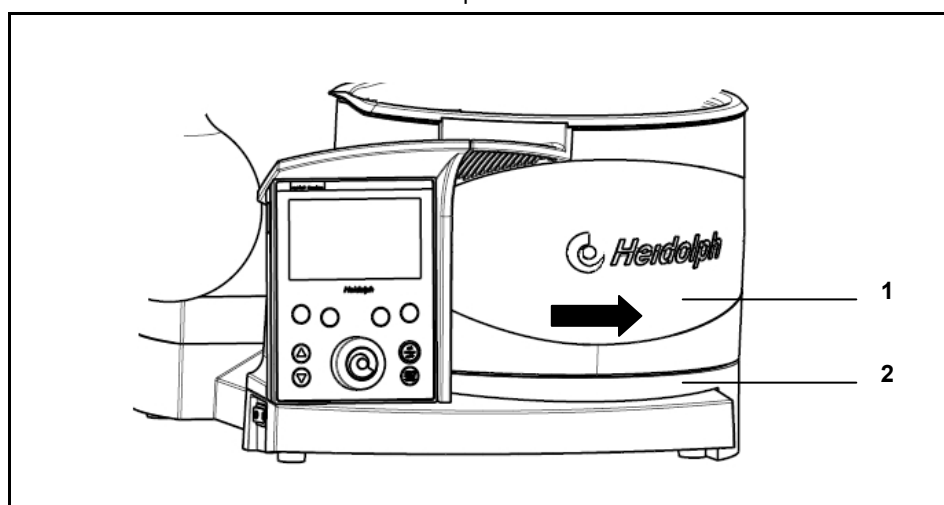

Figure 4-2: Heating bath
- ➔ Shift the heating bath including the base plate by the handle on the rail and position accordingly (Figure 4-2: Heating bath, 15).